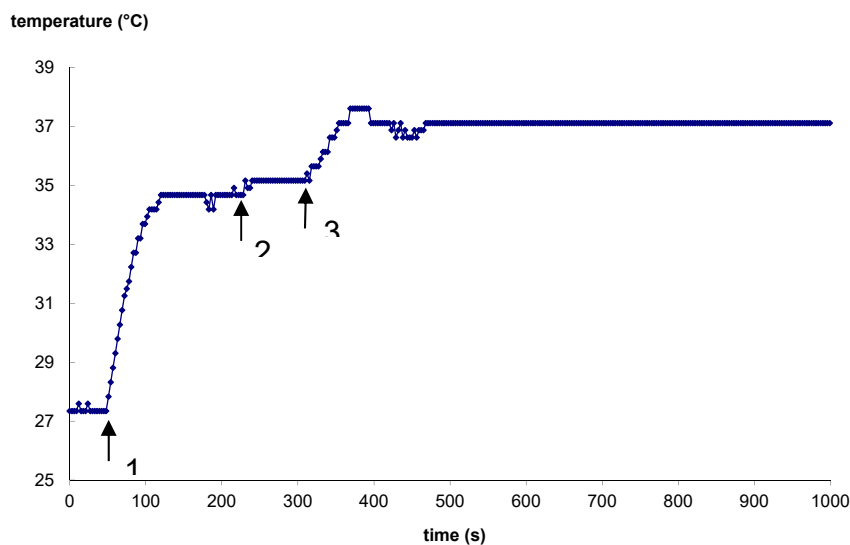

Figure 6: Time course of temperature regulation of the TC-10.
- If the desired temperature is not reached first set the GAIN to a slightly higher level and then – if necessary – raise the INTEGRATION (see Figure 6).
In Figure 6 the time course of temperature regulation of the TC-10 is shown. As resistive load a bulb (12V, 21W) was used. The temperature sensor was fixed directly on the bulb and sensor and bulb were wrapped with foam. Starting temperature was 27,3 °C. Starting conditions were: LIMITER set to 0, GAIN set to 0, INTEGRATION off.